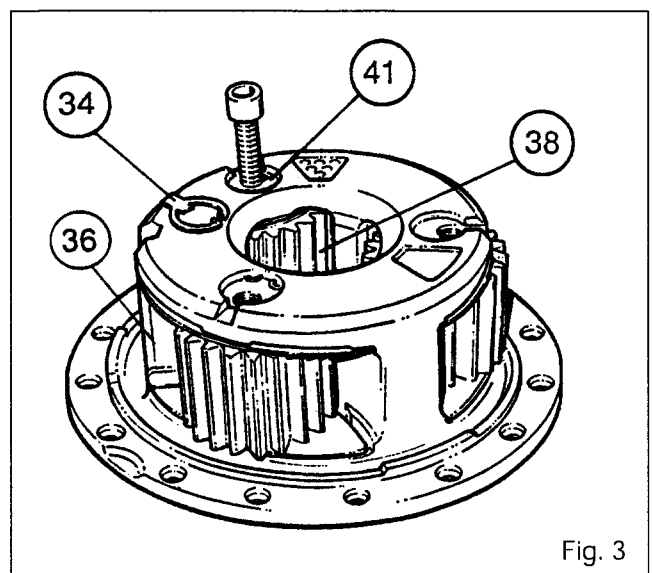

Fig. 3
Disassembling the planetary carrier (Fig. 3)
9. Place the planetary carrier (36) on a bench.
10. Remove the circlip (34), the dowels (54) or the bolts (55) and plate (53), (according to the option fitted).
11. Drive out the planet gear pins (41) with a bolt (Fig. 3) (axles prior to the above-mentioned serial numbers), and remove the planet gears (38). Recover the needles (35) and the plates (37) and (39).
13. Coat the needles with bearing grease and position them in each planet gear (38).
14. Fit the prepared planet gears in the planetary carrier (36).
15. Centre the planet gears and the plates. Position and fit the gear pins (41), with the tapped holes facing the notches on the planetary carrier as shown. Fit the circlips (34) (Fig. 3), (prior to the above-mentioned serial numbers).